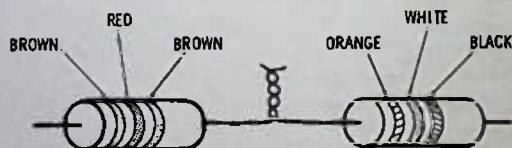

Fig. 2-24. Drawing for Questions 44 and 45.
44. In Fig. 2-24, the resistors are connected in
45. The total resistance of the two resistors connected as in Fig. 2-24 is